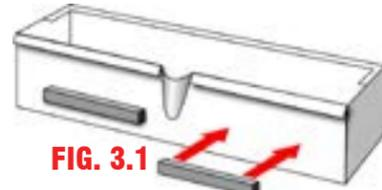

FIG. 3.1
1. Locate the reservoir (L) and the EVA Cushion Strips (C). Peel the paper off the adhesive strip and place each pad about 1" up from the bottom of the reservoir and 2" in from each side as shown in the drawing (Fig 3.1).